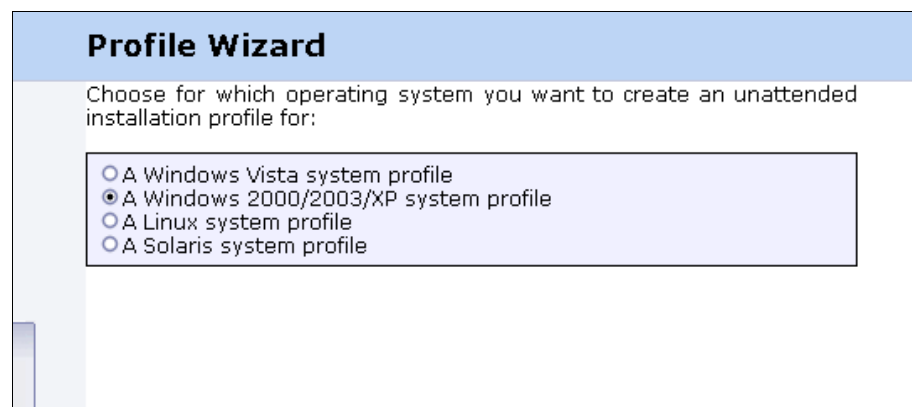

Figure 2-6 Creating a Window XP profile
3. In the next profile wizard window it asks you the operating system that will be contained in the profile. In this case select **"A Windows 2000/2003/XP system profile"** option as shown in Figure 2-6